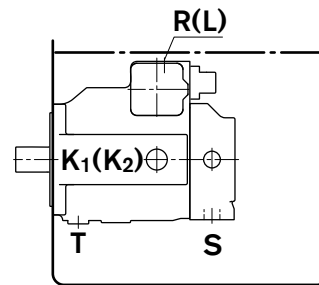

Fig. 3
a) When the minimum fluid level is equal to or lies above the upper edge of the pump: case drain port and suction port »S« open (see fig. 3).